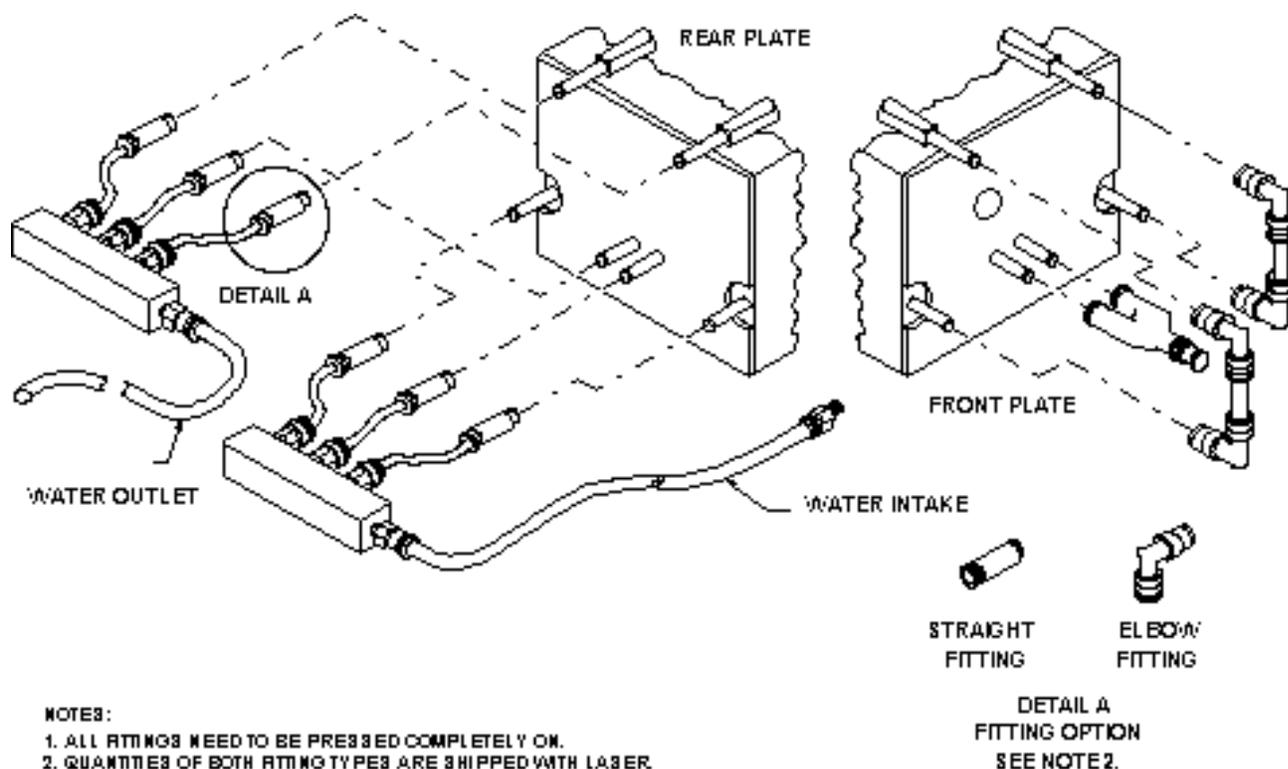

Figure 4.4
A cooling intake and exit manifold using a quick-disconnect Camozzi system (refer to Fig. 4.4) is shipped as a kit with the laser. The cooling kit also includes quantities of both straight- and elbow-fittings. The quick disconnect fittings can be removed from the tubing by compressing the front ring of the fitting against the body of the fitting. Other "Camozzi" fittings can be ordered from local supply houses such as Fittings, Inc. at (206)767-4670.